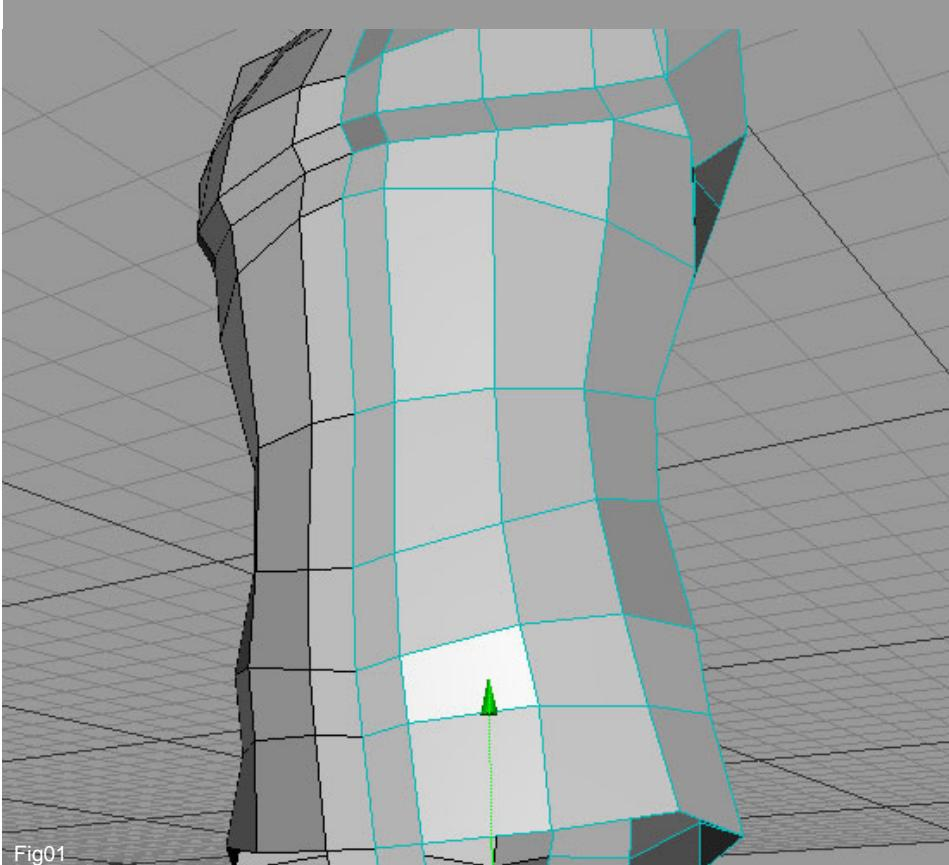

Fig01
1. Open the file for part 2 of the tutorial and begin by selecting the edges as shown in Fig 01. Now use the Extrude tool (right click mouse > extrude) to make a copy of these two edges. Adjust the position of the new verts.